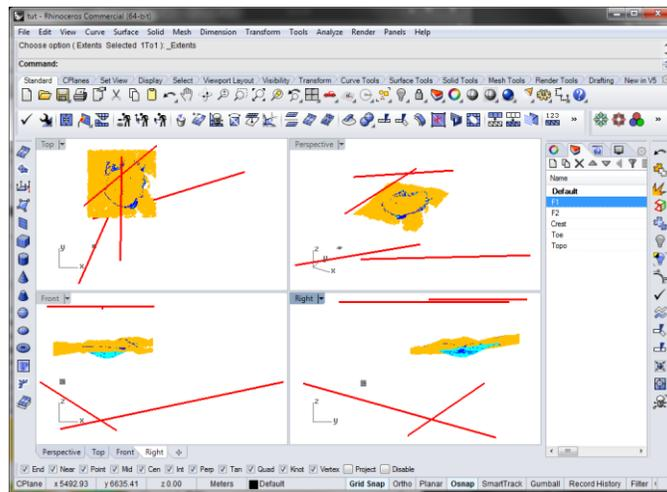

Figure 137: Rhino views after importing open_pit.dxf.
2. **File|Import open_pit.dxf**. Use **Model units: Meters, Layout units: millimeters** and **Mesh Precision: Double Precision** (Figure 137).